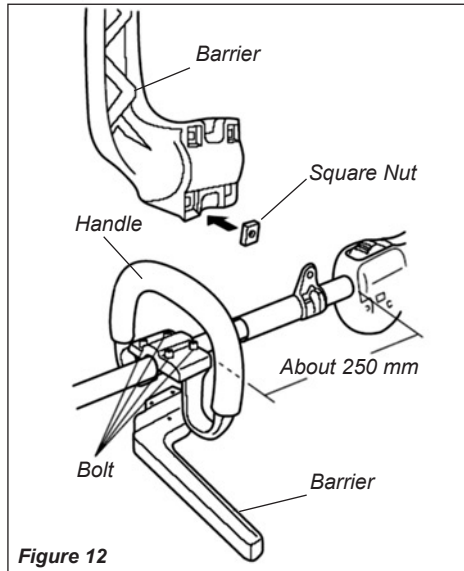

Figure 12
1. Put the 4 square nuts into the frame of the barrier. See figure 12.
2. Position the handle on the outer tube forward of Handle Positioning Label as shown in Figure 12. Reassemble the lower cap to the handlebar bracket in the reverse order of disassembly.